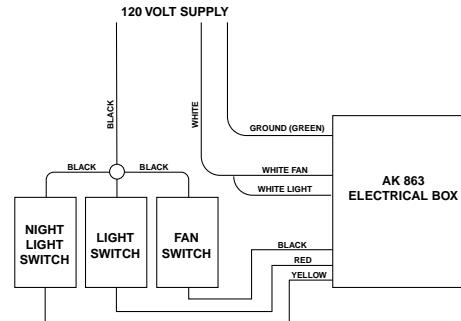

Figure 1
2. (Refer to Fig.1) From where you have access to inside the fans junction box connect the white wire from the house to the white wire of the fans receptacle and the white wire of the lights receptacle. Connect the one black wire from the fan switch to the black wire of the fans receptacle, then connect the red wire from the light switch to the red wire from the light receptacle. Connect the yellow wire from the night light switch to the yellow conductor of the light receptacle (use approved electrical conductors). Connect the ground wire to the green ground screw in the fans junction box.